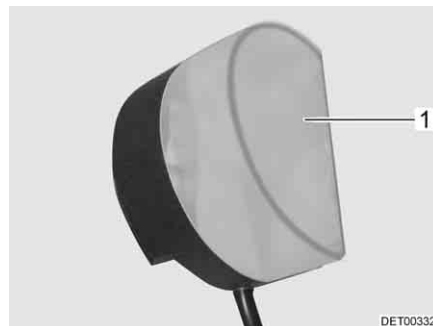

Fig. 248 Wardrobe light
- Press the light covering (Fig. 248,1) lightly together and remove it.